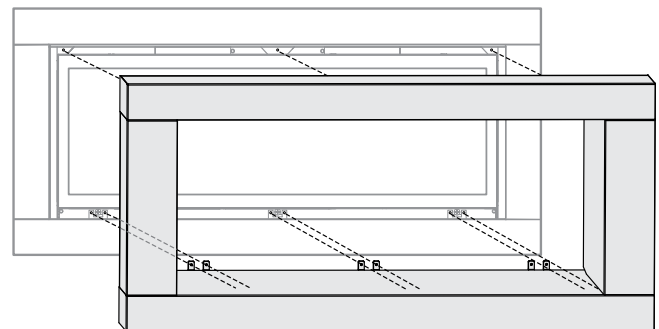

Figure 34-3: Installing Optional Surround
***For painted wall finish, use two (2) coats of quality primer and high-temperature paint on provided Fiber Board.**
- SURROUND:** Attach the Surround, and secure using the nine (9) screws provided with the Surround Kit (see **Figure 34-3**).